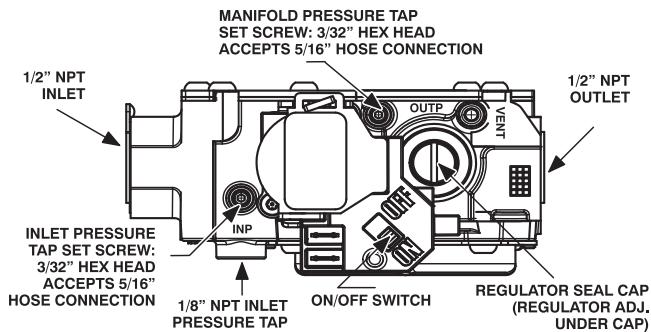

Fig. 64 – Gas Valve with Tower Pressure Ports
1. Adjust manifold pressure to obtain proper gas input rate, see Fig. 64.
- h. Remove regulator adjustment cap from gas valve pressure regulator and turn adjusting screw (3/16 or smaller flat-tipped screwdriver) counterclockwise (out) to decrease input rate or clockwise (in) to increase input rate, see Fig. 64.